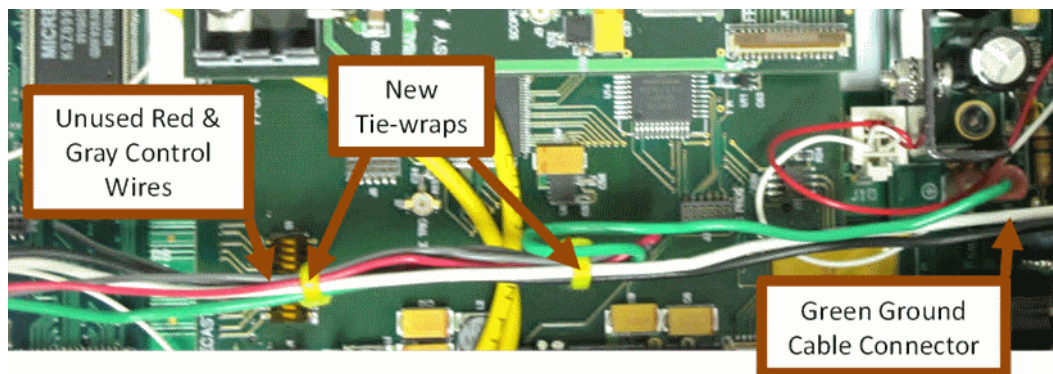

Fig. 2-11: Red, Gray, and Green Ground connectors
- 3 Dress the Green, Black, and White power cables so that they run straight across the chassis as shown in Figure 2-11.